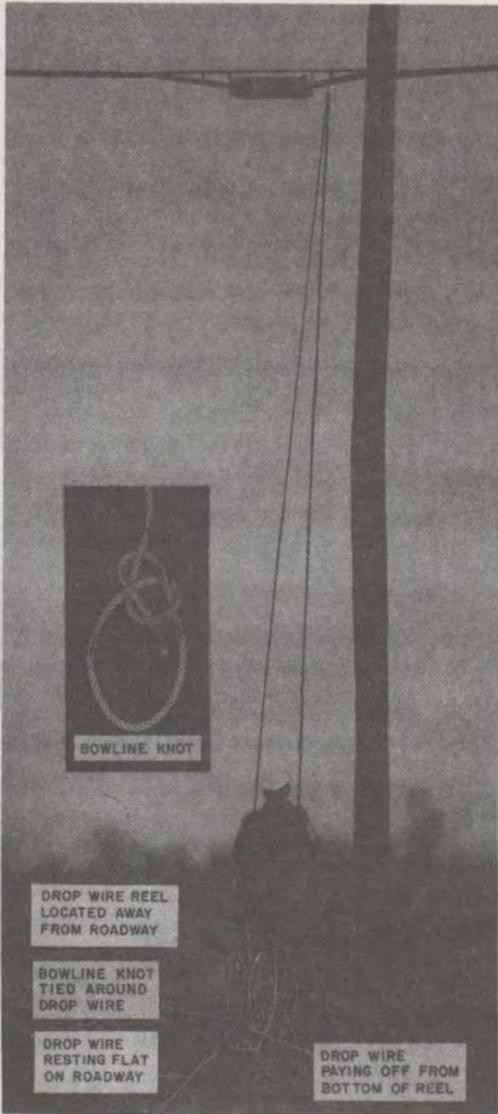

Fig. 4—Bowline Knot Placed Around Drop Wire
- Release the handline from the base of the pole or ladder. Tie a bowline knot at the end of the handline toward the building and around the drop wire at the reel as shown in Fig. 4. Be careful not to raise the wire on the roadway when securing the rope. Take up any excess wire on the reel.